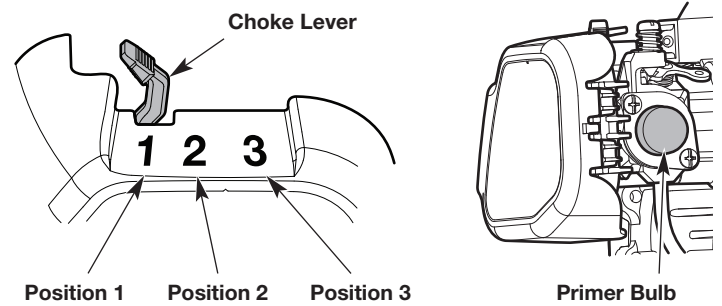

Fig. 10
1. Slowly press and release the primer bulb **10 times** (Fig. 10). If fuel cannot be seen in the primer bulb, press and release the primer bulb until fuel is visible.
2. Move the choke lever to **Position 1** (Fig. 10).
6. Move the choke lever to **Position 2** (Fig. 10).
9. Move the choke lever to **Position 3** (Fig. 10). Allow the engine to warm up for an additional 60 seconds. The unit may be used during this time.
IF... the engine hesitates, return the choke lever to **Position 2** (Fig. 10) and continue the warm-up.
7. Move the choke lever to **Position 2** (Fig. 10).
11. Move the choke lever to **Position 3** (Fig. 10). Allow the engine to warm up for an additional 60 seconds. The unit may be used during this time.